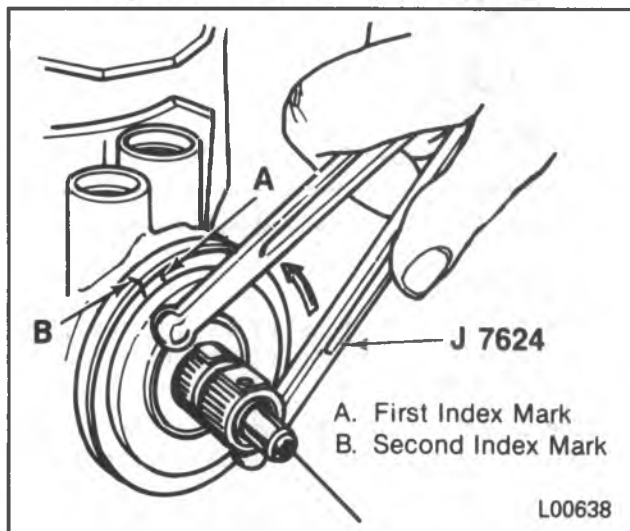

Figure 18 — Aligning the Adjuster Plug to the Second Mark
5. Rotate the adjuster plug back (counterclockwise) using J 7624 until the hole in the plug is aligned with the second mark on the housing (figure 18).
6. Install the adjuster plug nut (6).